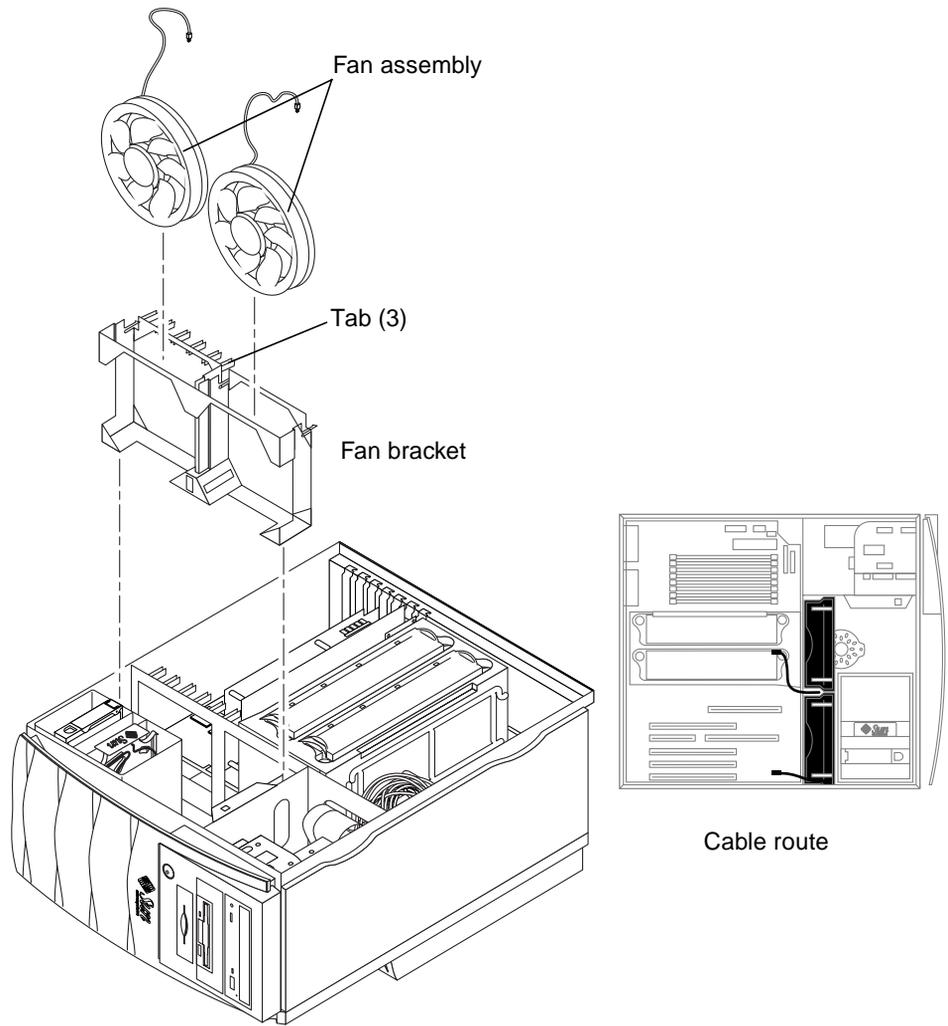

FIGURE 6-13 Removing and Replacing a Fan Assembly
2. **Disconnect the fan assembly power connectors from the motherboard connector J3302 for the lower fan assembly or J3303 for the upper fan assembly (FIGURE 6-13).**
See FIGURE 6-13.
1. **Press the fan assembly into the fan bracket (FIGURE 6-13).**